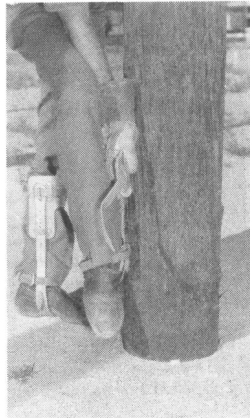

FIGURE 14. Climber Holding
- (3) Keeping just enough pressure on the stirrup to keep the gaff in the pole (but not enough to cause the gaff to penetrate any deeper), push the climber and hand toward the pole by moving the knee until the strap loop of the sleeve is against the pole as shown in Figure 14.